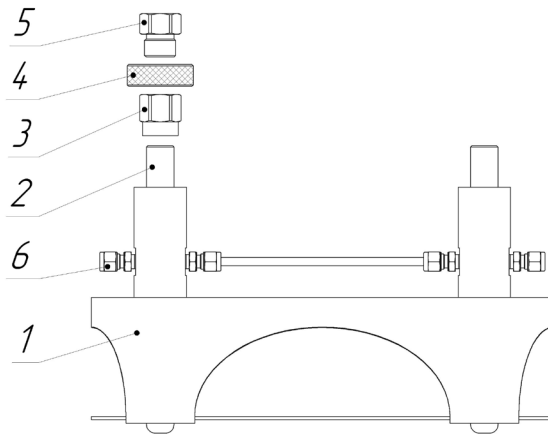

Fig. 1. Manifold
4.1 The manifold's appearance and general design are shown in Fig. 1.
4.2 The manifold consists of base 1 (Fig. 1) made of fashioned steel plate, on which stands 2 are installed. Connecting nut 3 shall be installed on the stand to connect the manometer to it. To facilitate connection, connecting nut's handwheel 4 is used. Connection between the manifold and the instrument shall be made with a tube (steel or plastic—depending on the purpose) and fittings 6. There are two fittings 6—the one is used for connection between the manifold and the instrument, and the second is used for prospective connection with another manifold (the second fitting is plugged).